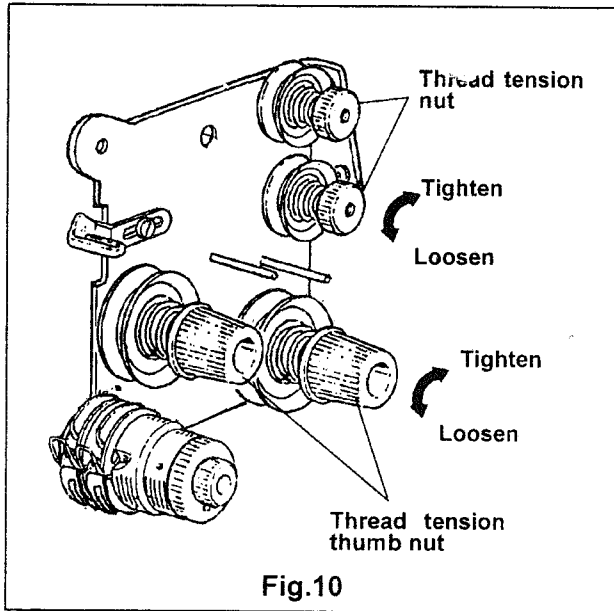

Fig.10
11. Adjustment of upper thread (Fig.10):